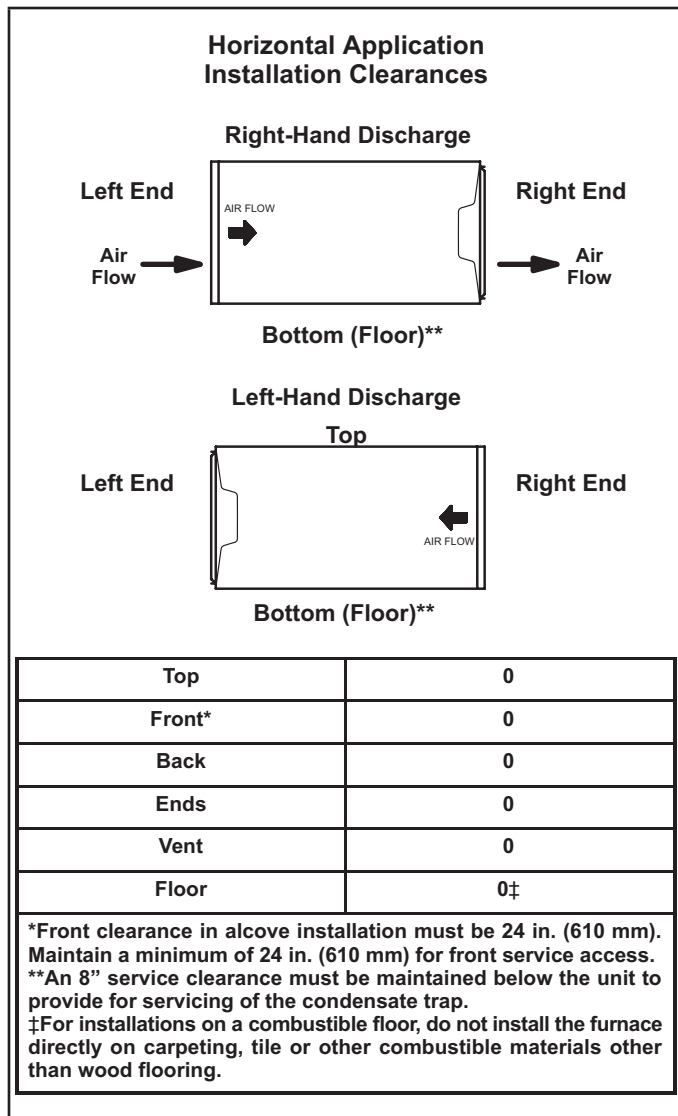

Figure 17
The ML196UHEK furnace can be installed in horizontal applications with either right- or left-hand air discharge. Refer to Figure 17 for clearances in horizontal applications.
- 1 - Select location for unit keeping in mind service and other necessary clearances. See Figure 17.